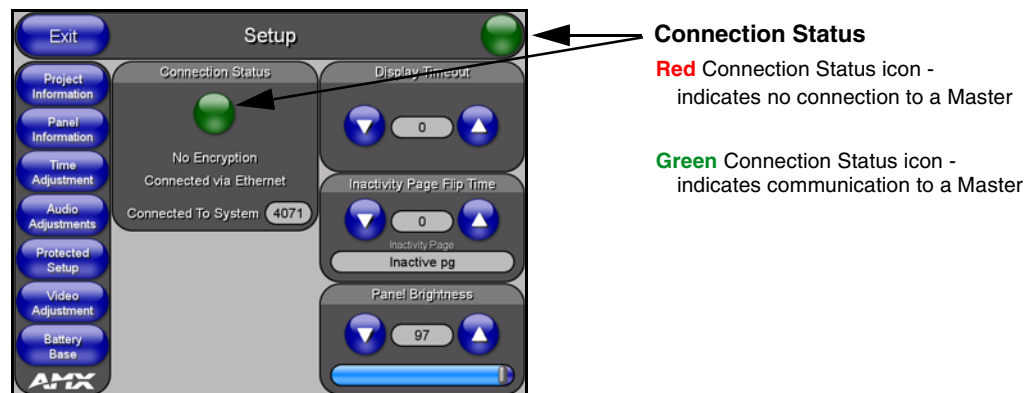

FIG. 127 Setup page
1. Press the grey Front Setup Access button for **3 seconds** to open the Setup page (FIG. 127).